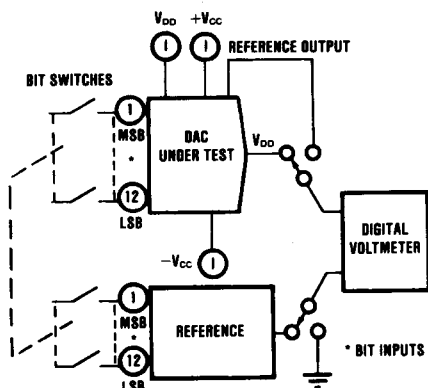

FIGURE 5. Test Circuit—Simplified.
- (1) Test condition D
- (2) Test circuit is Figure 5 herein
- (3) $T_A = +125^\circ\text{C}$ minimum
- (4) Test duration is 1000 hours minimum